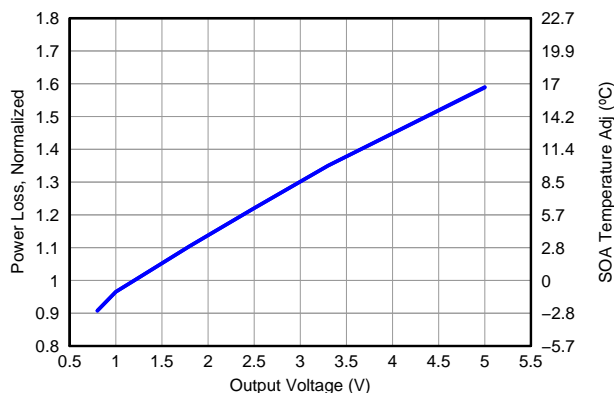

Figure 14. Normalized Power Loss vs Output Voltage
- Normalized Power Loss for output voltage  $\approx 0.7$  (Figure 14)
- SOA adjustment for output voltage  $\approx -1.0^\circ C$  (Figure 14)